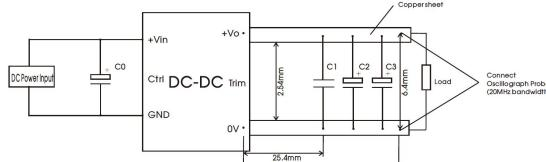

Fig.1
①The "Tip and barrel method" is used for ripple and noise test, for details please refer to Fig.1.
All the DC-DC converters of this series are tested before delivery using the recommended circuit shown in Fig.1.